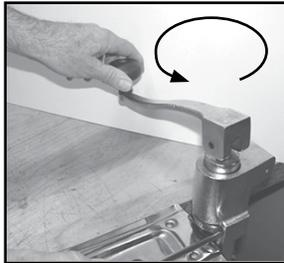

Figure 9
3. Gently turn the handle counterclockwise to unscrew. (Figure 9)